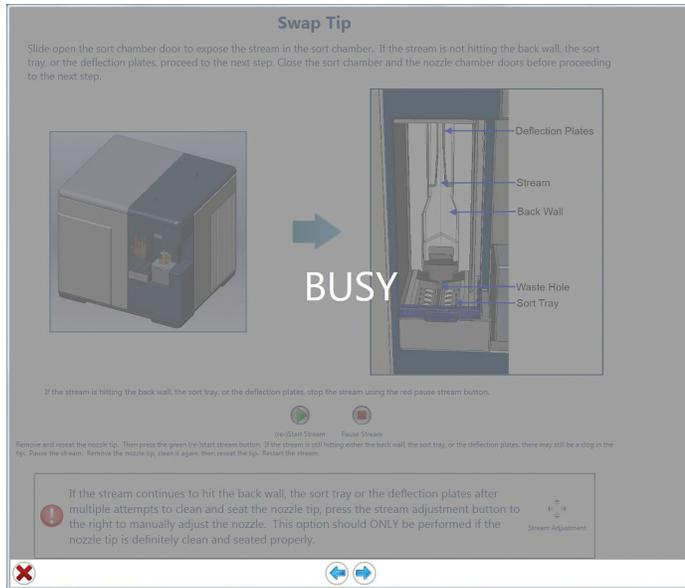

Fig. 120. AutoGimbal Swap Tip window.
**Note:** The system will perform a series of debubble cycles before proceeding, which can be heard by active clicking (Figure 120).